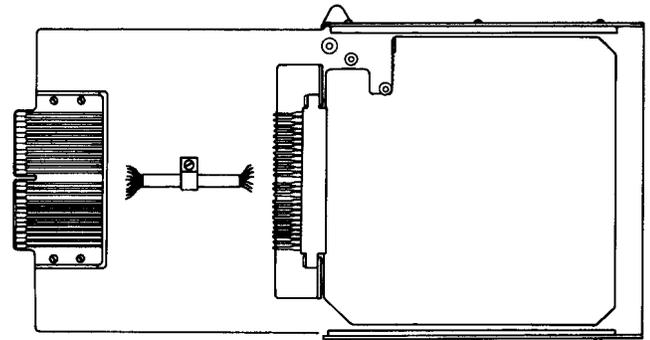

Fig. 1—17A Extender Tool
2.06 17A: The 17A extender tool (Fig. 1) was developed for use with miniature wire spring relay trunk circuits in No. 4A ESS Toll Systems to provide access to the circuit boards. This extender will plug into any position of any housing on the frame. This extender is used on J61561 BD, BE, BF, BH, and BJ No. 4A ESS trunk units.